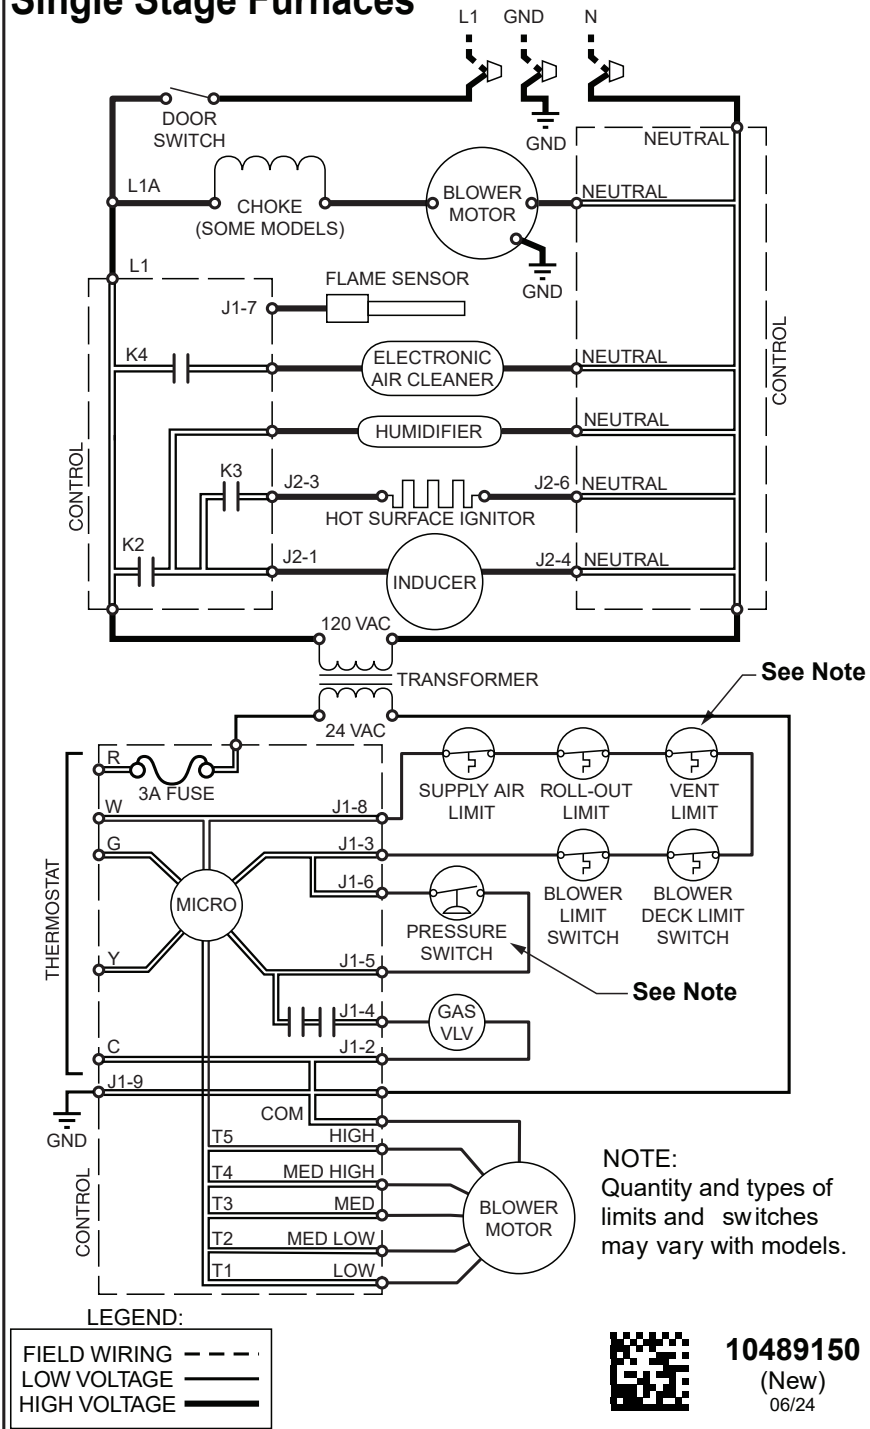

Figure 20. Nordyne Channel Ladder Diagram
- Are all the LED's on the furnace control board constantly ON? If not, refer to Table 6 or the wiring diagram (Figure 19) and (Figure 20) to determine fault condition.